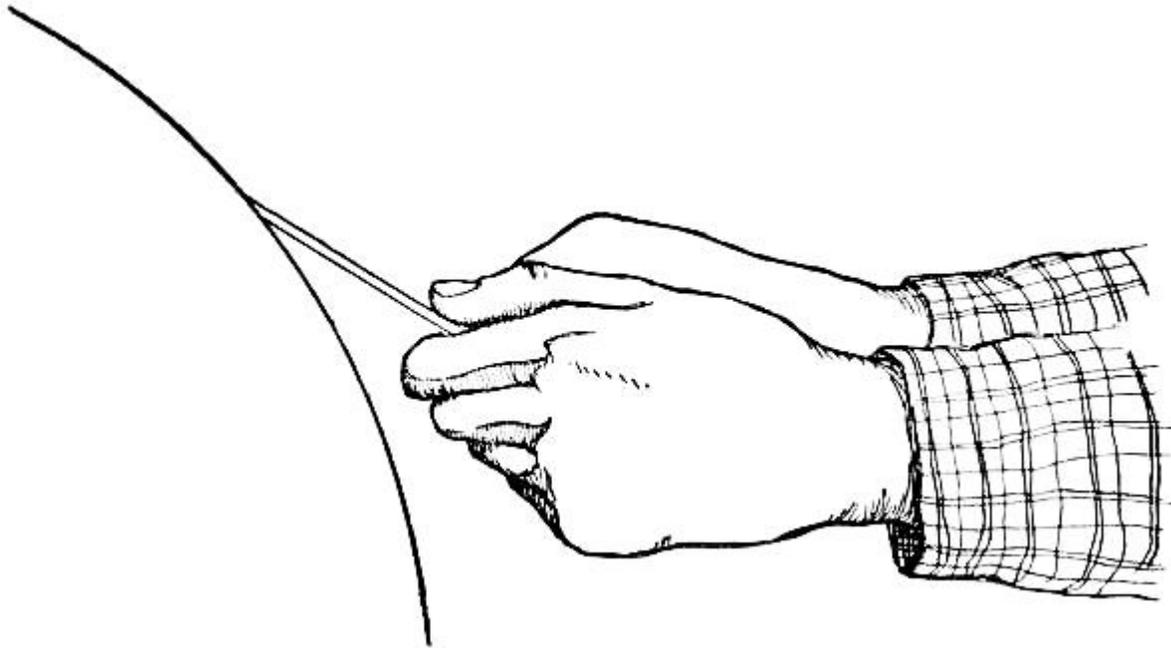

FIG. 35.—Grinding the Plane-iron.
**Plane-irons** are held with both hands, as shown in Fig. 35, and ground the same, except that the corners of the smoothing-and fore-plane irons are slightly rounded, while the edge of the jack-plane iron is a little higher at the corners than in the centre, to give it the qualities for removing thick shavings. It is more difficult to keep the line between the bevel and upper part of the iron straight than in grinding chisels, on account of the wider blade.